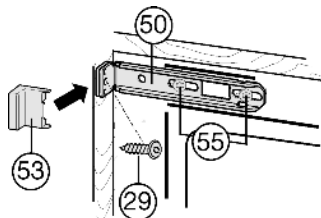

Fig. 18
- ▶ Loosen the screws *Fig. 18 (55)* a little.
- ▶ Tightly screw the top mounting bracket *Fig. 18 (50)* to the unit wall using Spax screw *Fig. 18 (29)*  $\varnothing 4 \times 19$ .
- ▶ Break off the projecting end of the cover *Fig. 18 (53)*.
- ▶ Tighten the screws *Fig. 18 (55)*.
- ▶ Put on the cover *Fig. 18 (53)*.